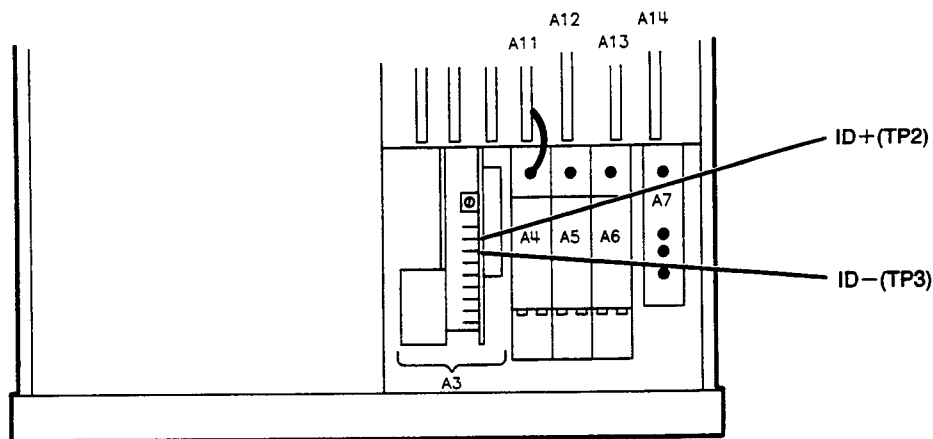

**Figure 4. Phase Locked Output Compared to Open Loop Output in SRC TUNE Mode**
6. The signal observed on the spectrum analyzer will appear jittery as in Figure 4 (b), not solid as in Figure 4 (a). This is because in SRC TUNE mode the output is not phase locked.